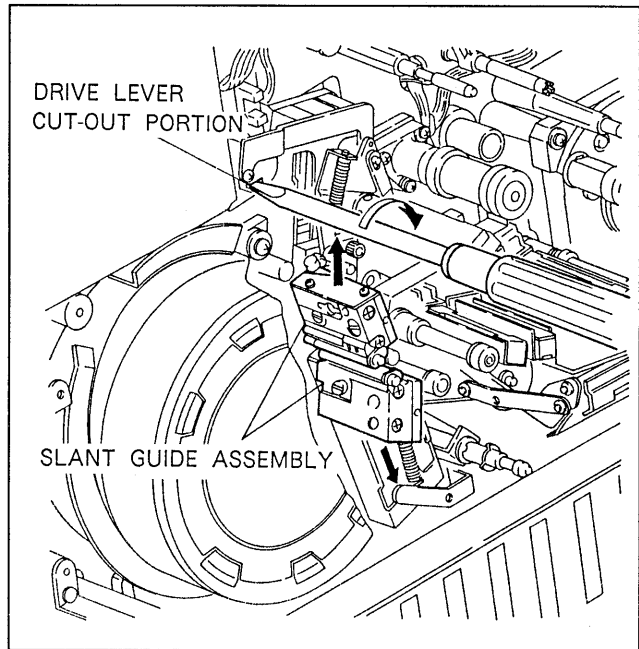

Fig. 6-5-8. Movement of Entrance/Exit Slant Guide Assembly
1. When the slant guide is closed as shown in Fig. 6-5-8, open the slant guide by inserting the tip of flat blade screwdriver into the drive lever cut-out portion and then rotate screwdriver. (Both the entrance and exit slant guides are opened.)